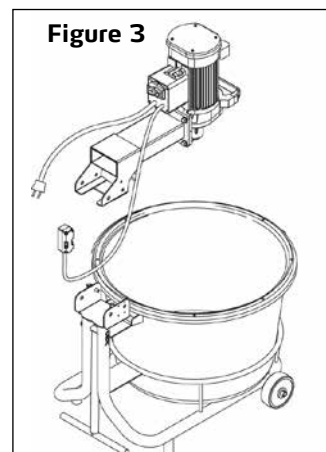

Figure 3
2. Then fit the swivel arm into the fork on the chassis, and align the drill holes (figure 3).